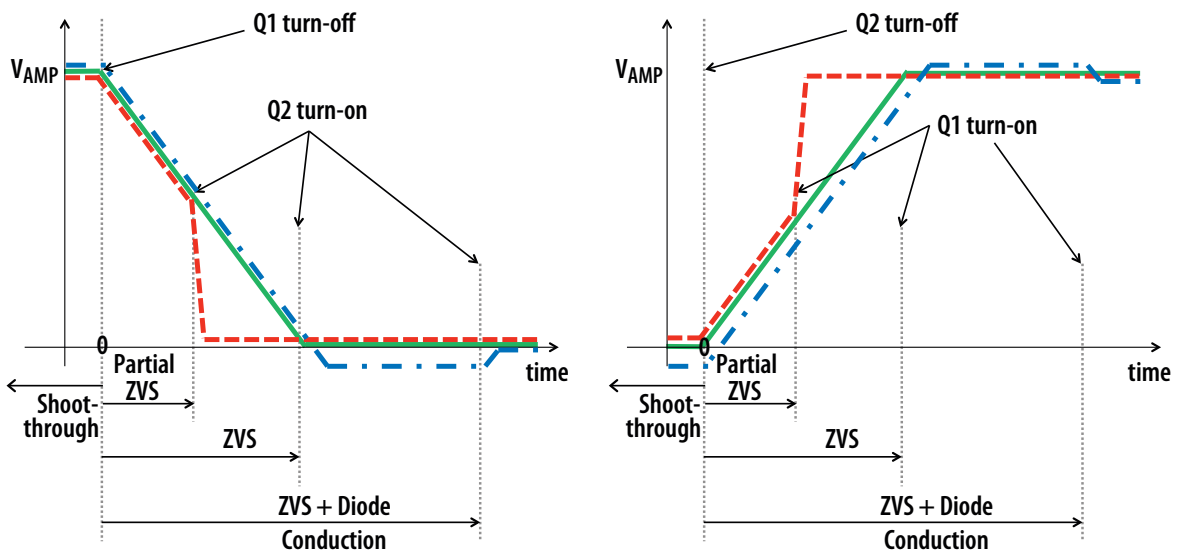

Figure 10: ZVS timing diagrams.
Setting the correct time to establish ZVS transitions is critical to achieving high efficiency with the EPC9509 amplifier. This can be done by selecting the values for R71, R72, R77, and R78 or P71, P72, P77, and P78 respectively. This procedure is best performed using a potentiometer installed at the appropriate locations that is used to determine the fixed resistor values. The procedure is the same for both single-ended and differential mode of operation. The timing MUST initially be set WITHOUT the source coil connected to the amplifier. The timing diagrams are given in Figure 10 and should be referenced when following this procedure. Only perform these steps if changes have been made to the board as it is shipped preset. The steps are:
6. While observing the oscilloscope adjust the applicable potentiometers to so achieve the green waveform of Figure 10.